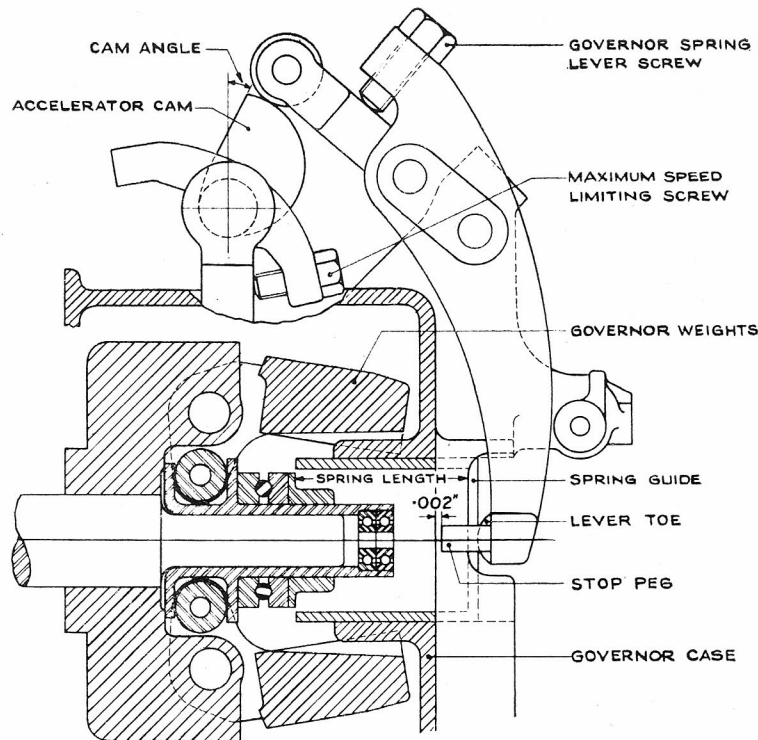

Fig. 40. Governor Re-adjustment
- (1) With the governor weights parted to their full extent, adjust the length of the governor bar connecting link to give the slider bar a position approximately $\frac{1}{32}$ in. (.794 mm.) from its maximum stroke towards the timing case, as described in paragraph 45, sub-paragraph 2, Page 73.
- (2) By adjustment of the maximum speed limiting setscrew in the rocking lever on the accelerator cam spindle (See Fig. 40), set the straight flank of the accelerator cam at the appropriate angle, given in the following table, for the required maximum speed.
- (3) Determine the length of the actual spring to be used, when loaded to the figure given in the table for the particular maximum speed concerned. Initial assembly is then made with a tubular distance piece in place of the spring. The length of this distance piece **MUST** be made precisely the same as that of the spring when compressed to the working load given in the table above.
- (4) With the governor weights fully closed, the distance piece in position and the cam set as above, adjust the governor spring lever screw (Fig. 40), until the rounded toes at the lower end of the lever touch the end face of the spring guide. Fit the stop pegs in the lever arms and file each peg to give .002 in. (.051 mm.) clearance from the face of the governor case.
- (5) Fit the spring in place of the distance piece.
- (6) Readjust the governor spring lever screw to restore the .002 in. (.051 mm.) clearance between the stop pegs and governor case.